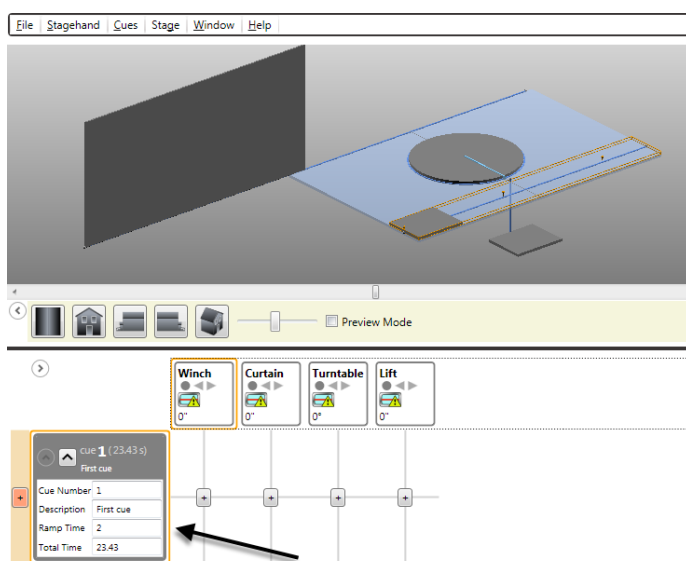

Figure 209
1. Click on the applicable Cue in the **Cue Grid** that contains the motors you wish to set the Spikes for (Figure 209).